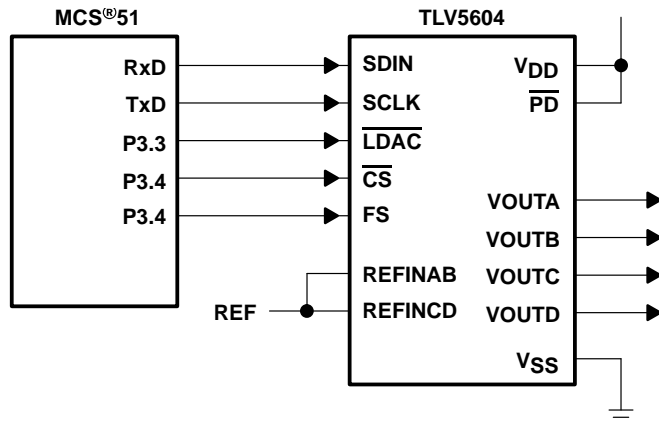

Figure 18. TLV5604 Interfaced with MCS[®]51
Figure 18 shows an example of how to connect the TLV5604 to an MCS[®]51 Microcontroller. The serial DAC input data and external control signals are sent via I/O Port 3 of the controller. The serial data is sent on the RxD line, with the serial clock output on the TxD line. Port 3 bits 3, 4, and 5 are configured as outputs to provide the DAC latch update ($\overline{\text{LDAC}}$), chip select ($\overline{\text{CS}}$) and frame sync (FS) signals for the TLV5604. The active low power down pin (PD) of the TLV5604 is pulled high to ensure that the DACs are enabled.